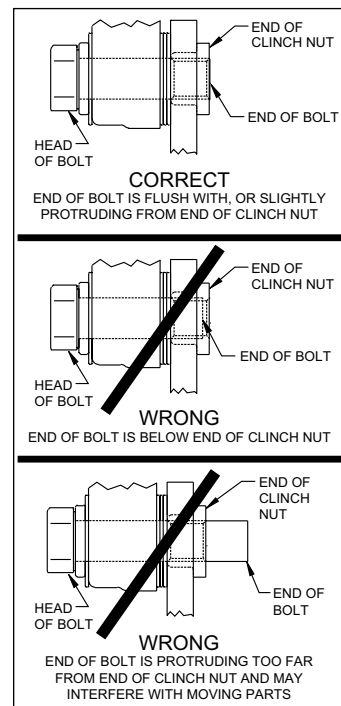

Figure 5. Clinch Nut Engagement Diagram
**CAUTION:** All mounting bolts must fully engage clinch nuts. Be sure to check that all bolts are either flush or protruding through flanged side of clinch nut after shimming, Figure 5.
- Screw dust cap (14) into hub (5), Photo 7. Friction created by the o-ring (15) on the dust cap keeps it from unscrewing. **NOTE:** The O.D. of the existing OEM spindle washer may be larger than the I.D. of the dust cap not allowing it to seat against the hub face. Therefore, use the spindle washer (13) supplied with the kit instead of the OEM washer.
- NOTE:** Please reference the caution statement at the beginning of the assembly instructions. Mount the caliper (16) onto the caliper mounting bracket (1) using bolts (17) and washers (18), as shown in Figure 2. Initially place one .035" thick shim (19) on each bolt between the caliper and the bracket, Photo 8. Temporarily tighten the mounting bolts and view the rotor (9) through the top opening of the caliper. The rotor should be centered in the caliper, Photo 9. If not, adjust by adding or subtracting shims (19) between the bracket and the caliper. Always use the same amount of shims on each of the two mounting bolts. **NOTE:** The end of each bolt must be flush with or slightly protruding from the head of the clinch nut, as shown in Figure 5. If necessary place spare shims (19) between washer (18) and caliper mounting ear to achieve the proper clinch nut engagement. Once the caliper alignment and clinch nut engagement are correct, remove the bolts one at a time, apply red *Loctite*® 271 to bolt threads, and torque to 40 ft-lb. For an added measure of security, the bolts may be safety wired using standard 0.032 inch diameter stainless steel